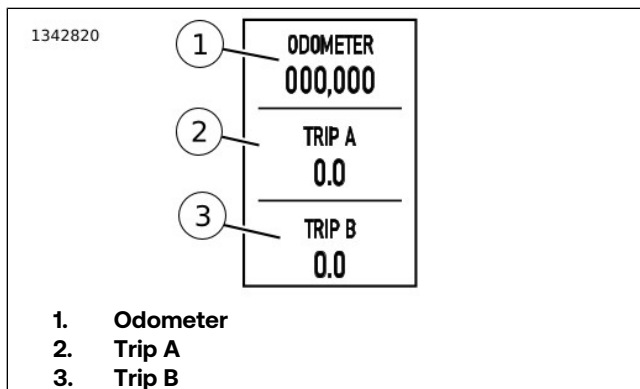

Figure 43. Trip Widget
See Figure 43. The trip widget displays the odometer reading (1), trip A (2) and trip B (3) mileage. The trip widget can also be configured from the settings menu to display trip K.